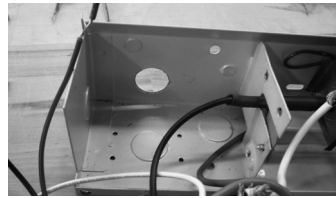

FIG. 2
3. Insert the control wires supplied by the installer into the baseboard electrical box through one of the knock outs (KOE) (FIG. 2). Connect the low voltage wires with the relay wires using the appropriate wire nuts. Refer to the diagram included with the relay to make the connections. Important: Only use 600V conductors, resistant to 75°C.